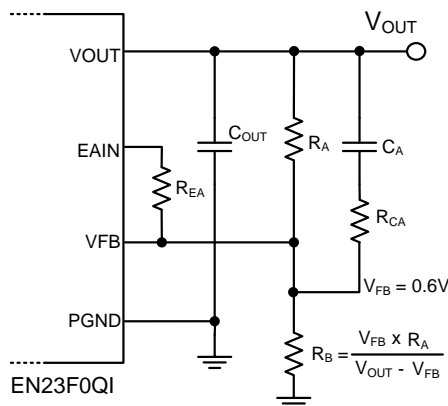

Figure 12:  $V_{OUT}$  Resistor Divider & Compensation Components. See Table 4 for details.
The EN23F0QI uses a Type IV Voltage Mode compensation network. Type IV Voltage Mode control is a proprietary Altera Enpirion control scheme that maximizes control loop bandwidth to deliver excellent load transient responses and maintain output regulation with pin point accuracy. For ease of use, most of this network has been customized and is integrated within the device package. The EN23F0QI output voltage is programmed using a simple resistor divider network ( $R_A$  and  $R_B$ ). The feedback voltage at VFB is nominally 0.6V.  $R_A$  is predetermined based on Table 4 and  $R_B$  can be calculated based on Figure 12. The values recommended for  $C_{OUT}$ ,  $C_A$ ,  $R_{CA}$  and  $R_{EA}$  make up the external compensation of the EN23F0QI. It will vary with each PVIN and VOUT combination to optimize on performance. The EN23F0QI solution can be optimized for either smallest size or highest performance. Please see Table 4 for a list of recommended  $R_A$ ,  $C_A$ ,  $R_{CA}$ ,  $R_{EA}$  and  $C_{OUT}$  values for each solution. Since VFB is a sensitive node, do not touch the VFB node while the device is in operation as doing so may introduce parasitic capacitance into the control loop that causes the device to behave abnormally and damage may occur.
**Table 4:**  $R_A$ ,  $C_A$ ,  $R_{CA}$  and  $R_{EA}$  Values for Various PVIN/VOUT Combinations: Best Performance vs. Smallest Solution Size. Use the equations in Figure 12 to calculate  $R_B$ . Output ripple is measured at no load and nominal deviation is for a 15A load transient step. For compensation values of output voltage in between the specified output voltages, choose compensation values of the lower output voltage setting.